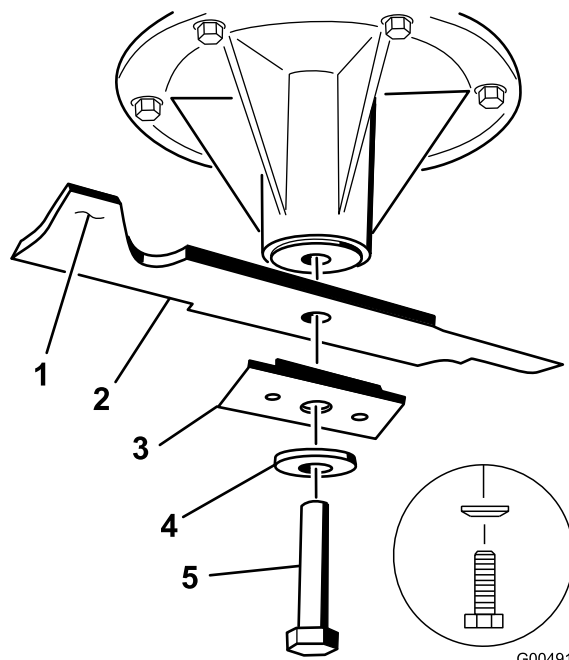

Figure 63
3. For 36 and 52 inch mower decks, remove the blade bolt, curved washer, blade stiffener, and blade from the spindle shaft (Figure 63).
3. For 36 inch and 52 inch mower decks, install the blade, stiffener, curved washer, and blade bolt (Figure 63).